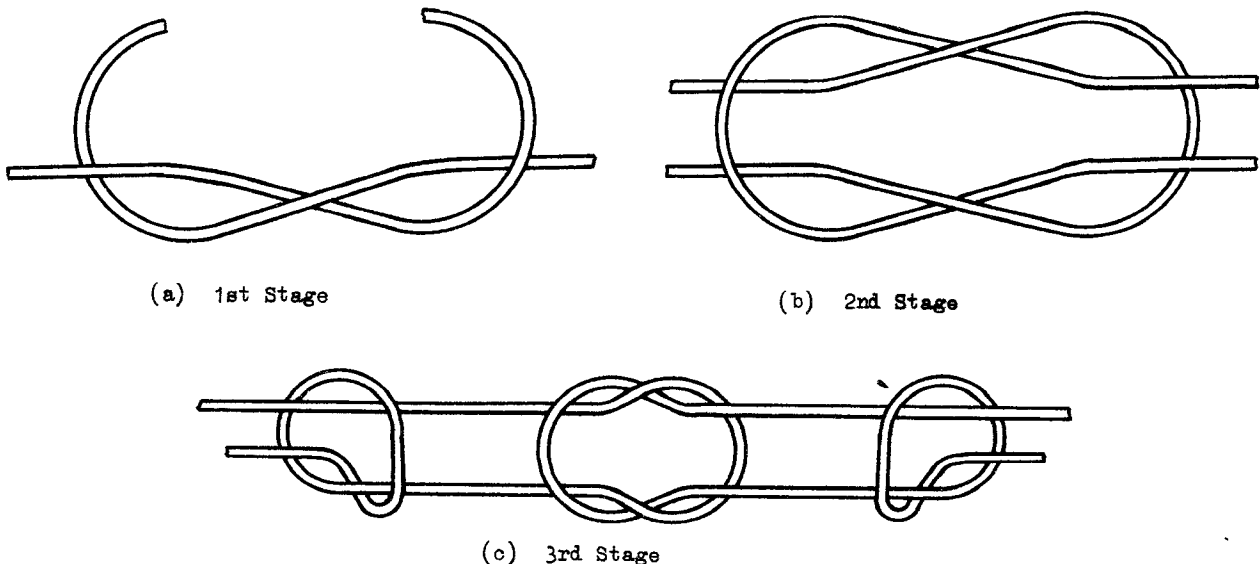

FIG. 4. JOINING LACING TWINE.
2.3 Joining Twine. Twine is joined during lacing as shown in Fig. 4.